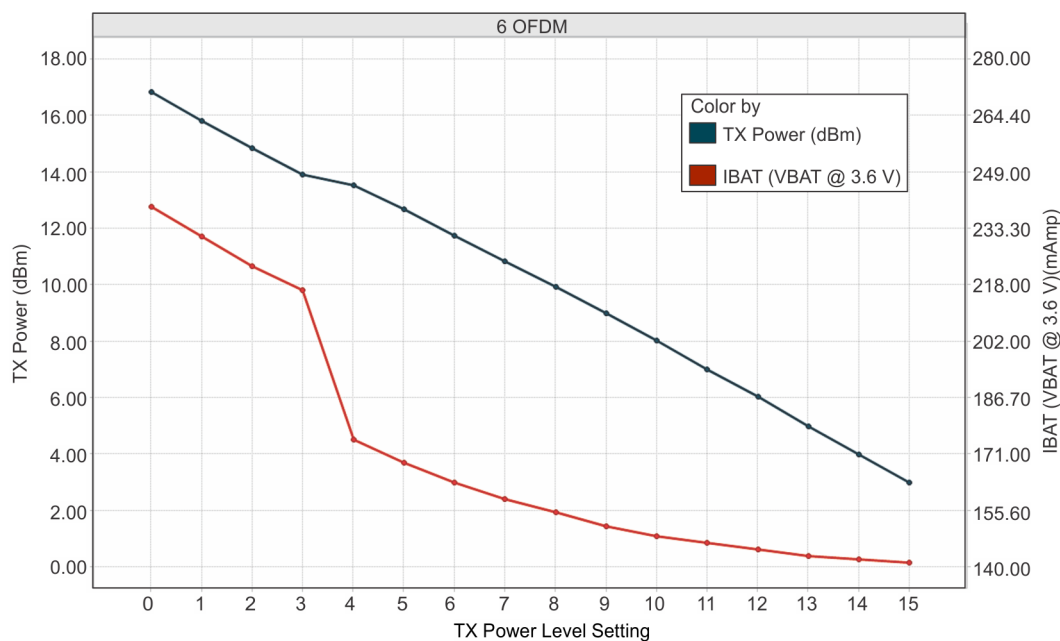
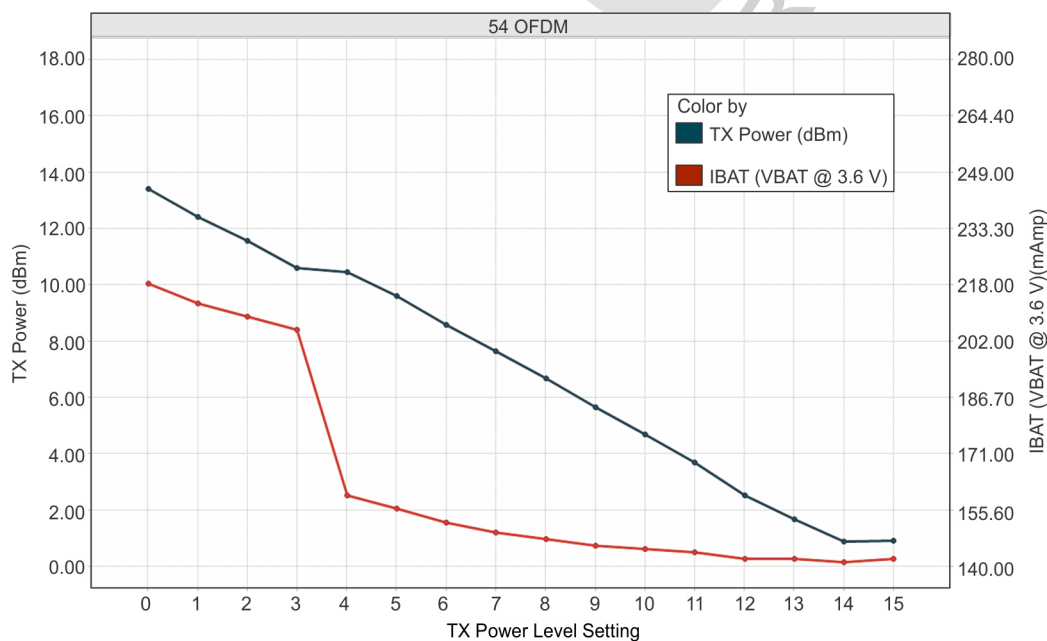

Figure 5-2. TX Power and IBAT vs TX Power Level Settings (6 OFDM)
Figure 5-3. TX Power and IBAT vs TX Power Level Settings (54 OFDM)
- (1) TX power level = 0 implies maximum power (see Figure 5-1, Figure 5-2, and Figure 5-3). TX power level = 4 implies output power backed off approximately 4 dB.
- (2) The CC3135MOD system is a constant power-source system. The active current numbers scale based on the V_{BAT} voltage supplied.
- (3) The RX current is measured with a 1-Mbps throughput rate.
- (4) DTIM = 1
- (5) The complete calibration can take up to 17 mJ of energy from the battery over a time of 24 ms. In default mode, calibration is performed sparingly, and typically occurs when re-enabling the NWP and when the temperature has changed by more than 20°C . There are two additional calibration modes that may be used to reduced or completely eliminate the calibration event. For further details, see CC31XX SimpleLink™ Wi-Fi® and IoT Network Processor Programmer's Guide.
- (5) The complete calibration can take up to 17 mJ of energy from the battery over a time of 24 ms. In default mode, calibration is performed sparingly, and typically occurs when re-enabling the NWP and when the temperature has changed by more than 20°C . There are two additional calibration modes that may be used to reduced or completely eliminate the calibration event. For further details, see CC31XX, CC32XX SimpleLink™ Wi-Fi® and IoT Network Processor Programmer's Guide.